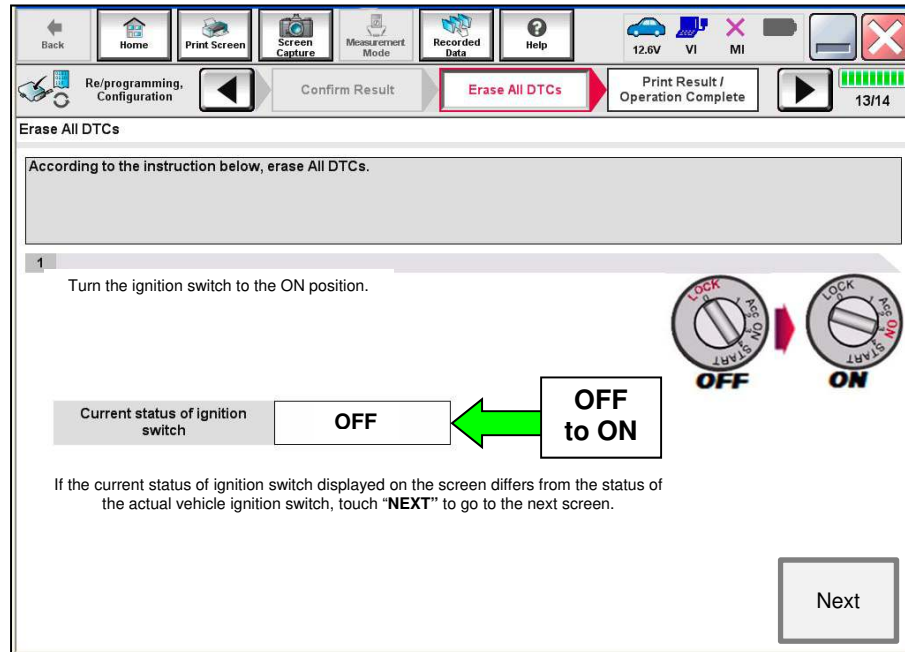

Figure 20
- b. Wait one (1) minute after turning the ignition **OFF**.
- The screen in Figure 20 will read ON after pressing the power switch twice.